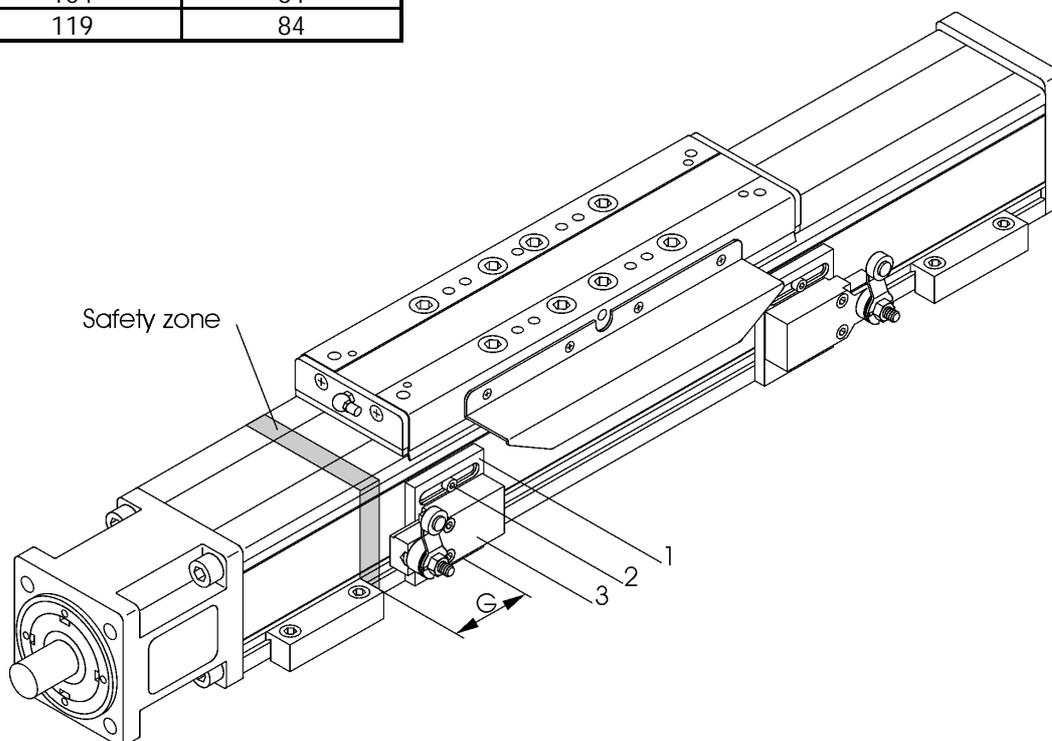

Fig. 7
1. Fig. 7: Loosen the clamping screw (2) of the mounting plate (1).
2. Move the mounting plate with the limit switch (3) to the desired position.